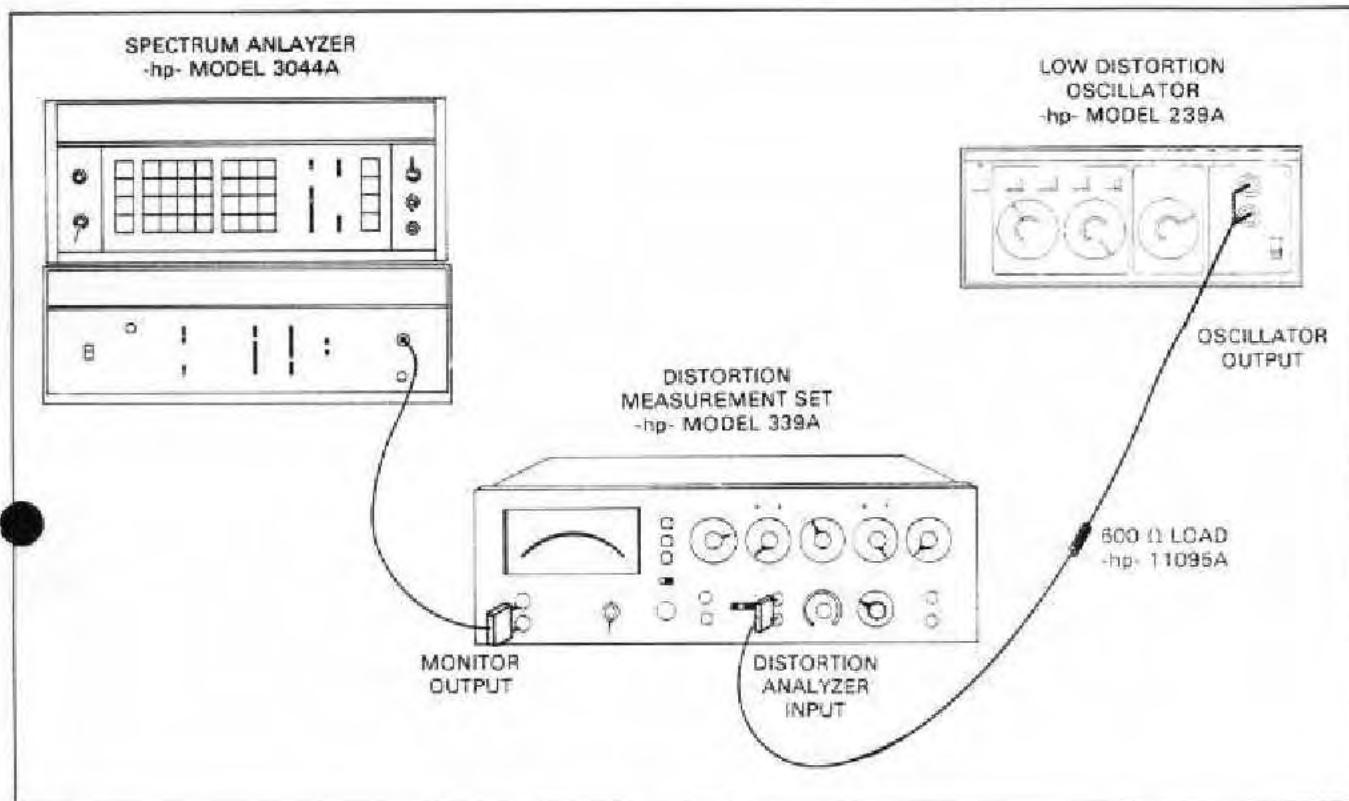

Figure 5-1. Notch Filter Null Adjustments.
a. Connect the equipment as shown in Figure 5-1.